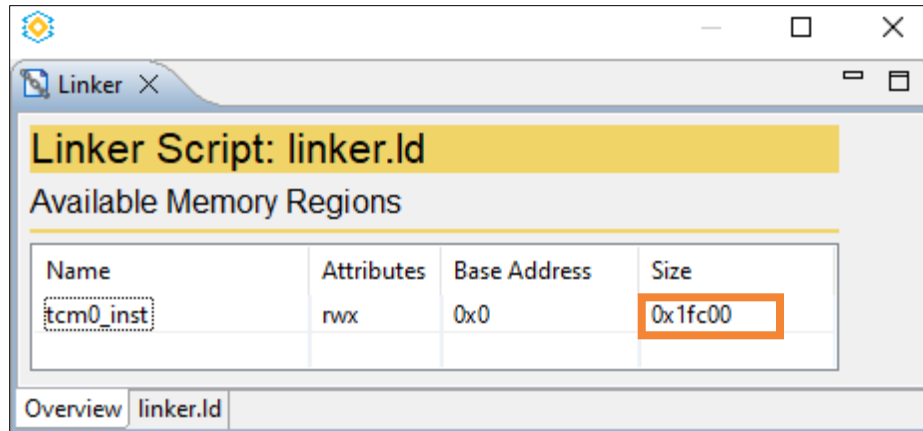

Figure A.14. Updated Linker Script
7. Check the linker script file linker.ld (Figure A.14). The region size is changed to 0x1FC00 automatically.